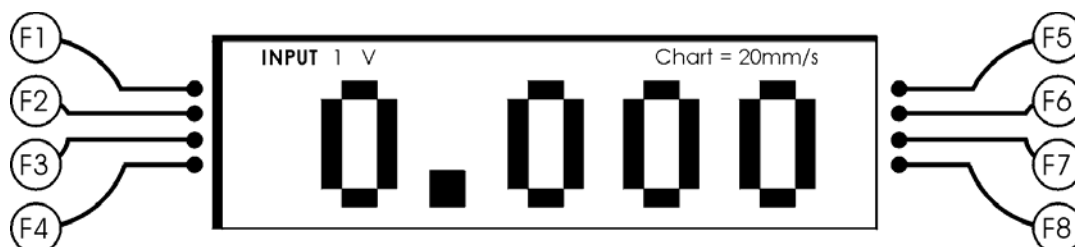

Figure 7.4. Display input enlarged
- F4 Pressing key F4 one or more times lets you select which input you would like to display in enlarged mode. The enlarged mode actually appears after pressing Enter. You can return to the 'display mode' screen by pushing the Exit key once. Figure 7.4 gives an example of enlarged input 1.